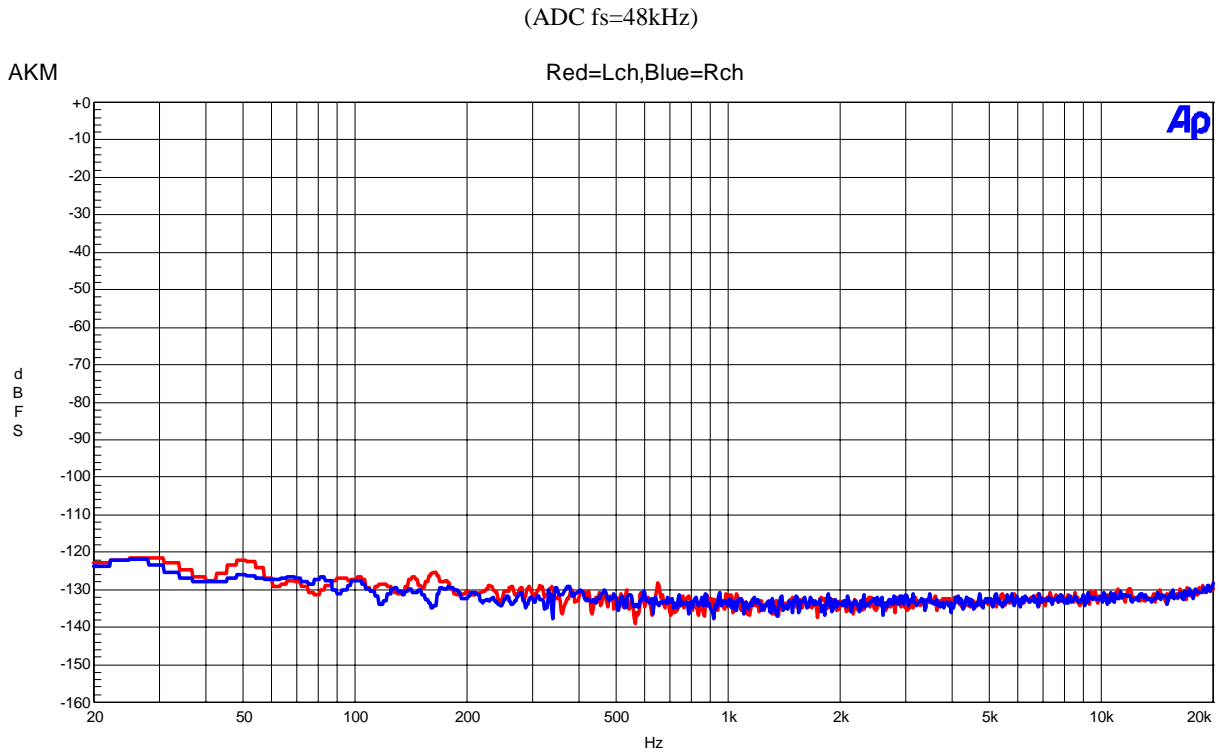

Figure 10. FFT(noise floor)
- Figure 10. THD+N vs Input Level (Input Frequency =1kHz)